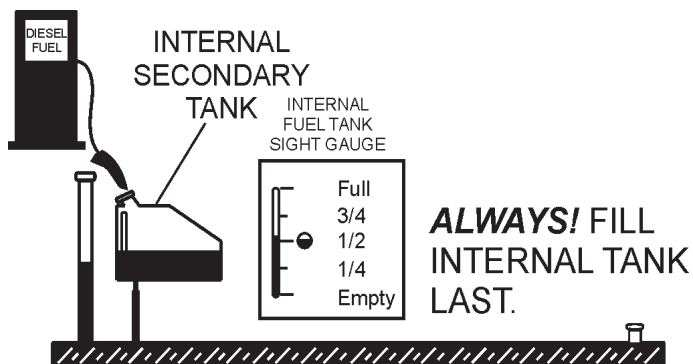

Figure 36. Filling Secondary Internal Fuel Tank
**DO NOT OVERFILL** fuel system. Leave room for fuel expansion. Fuel expands when heated (Figure 36).
4. Once the trailer tank is full, the **secondary inner tank** can be filled (See Figure 36). Notice how the trailer filler tube level rises when the internal tank is filled.